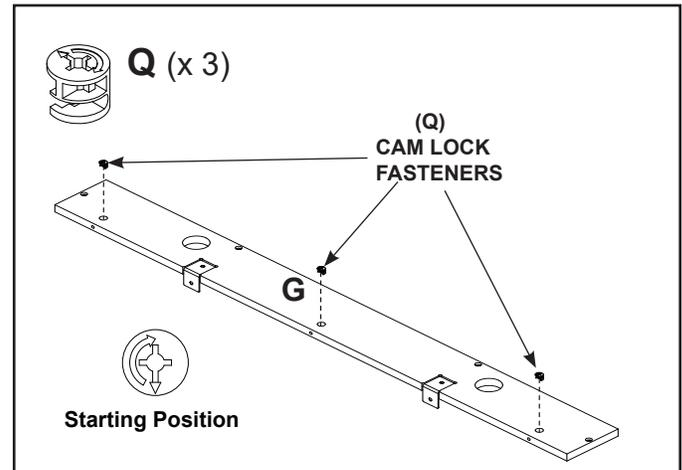

Figure 14
- Install three (3) Cam Lock Fasteners (Q) into part “G” with the arrows in the orientation shown on page 2 and Figure 14.